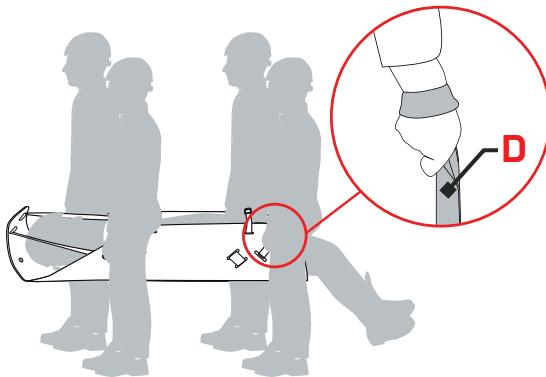
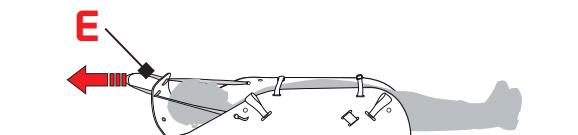
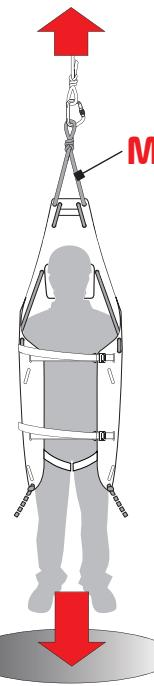

Fig. 3
Fig. 4
Fig. 5
- 1:3 = operating load: 150 Kg for manual lifting using the handles (D) - (fig. 3)
- 1:3 = operating load: 150 Kg for dragging by hand using the sling (E) - (fig. 4)
- 1:10 = operating load: 150 Kg for lifting/lowering with rescue devices using the rope (M) (fig. 5).
The “HALF ROLLY” rescue sheet is suitable for lifting and transporting the patient using the side handles (fig. 3), dragging them using the sling (fig. 4), and lifting/lowering them vertically using the static rope (fig. 5).